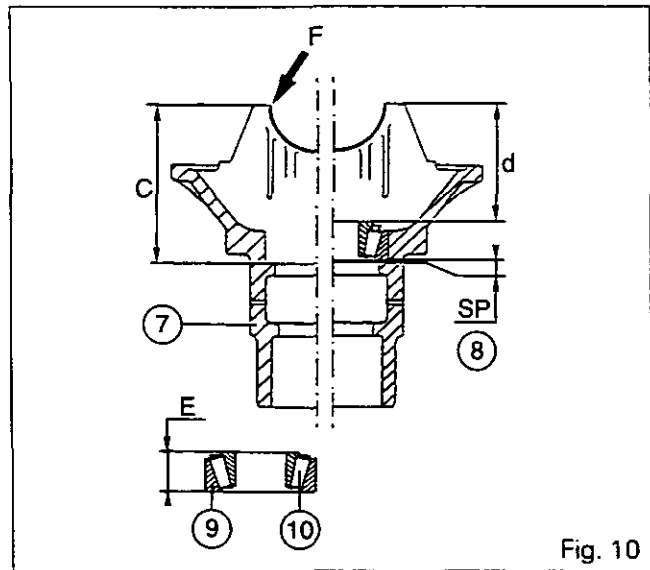

Fig. 10
38. Adjust the position of the bevel drive pinion (Fig. 10). The thickness of the shims required to position the bevel drive pinion correctly is calculated using the following formula: